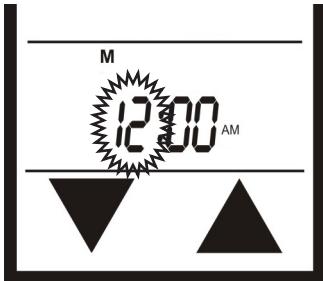

Fig. 5 Hours.
- Press and hold the **SET** button, or touch the **SET** section on the touch screen, for 5 seconds. The hour section should begin to flash. (Fig. 5)